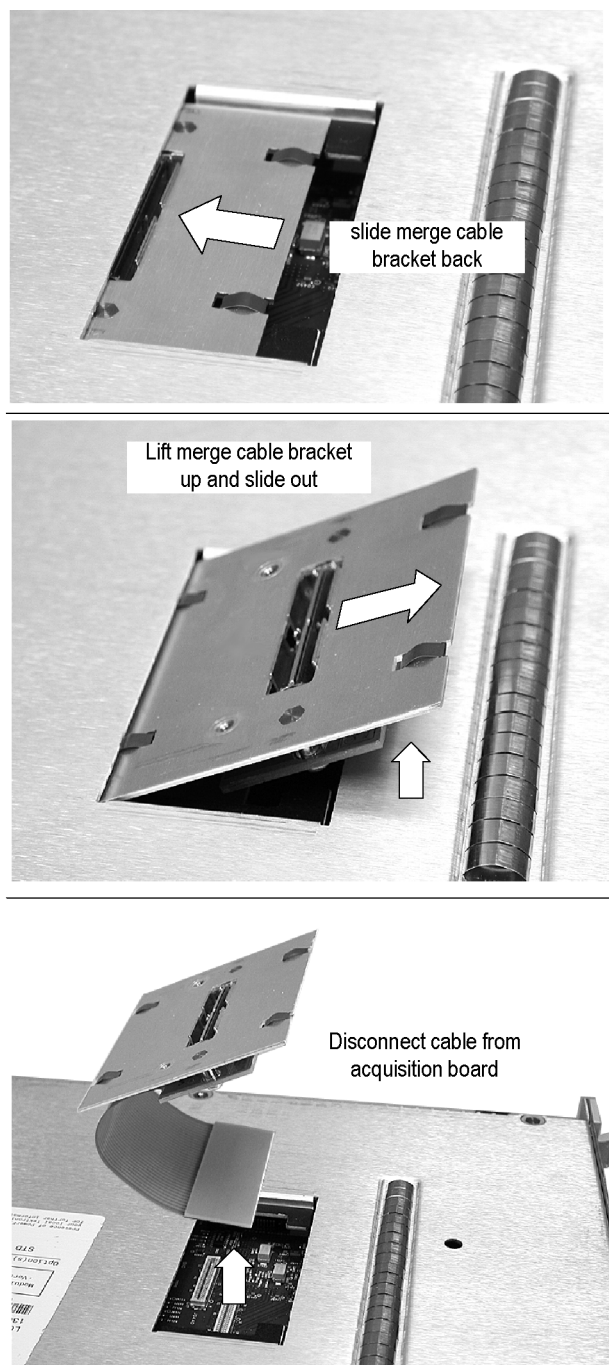

Figure 19: Removing the merge cable assembly
- b. Feed the merge cable into the hole and connect it to the circuit board. (See Figure 19.)